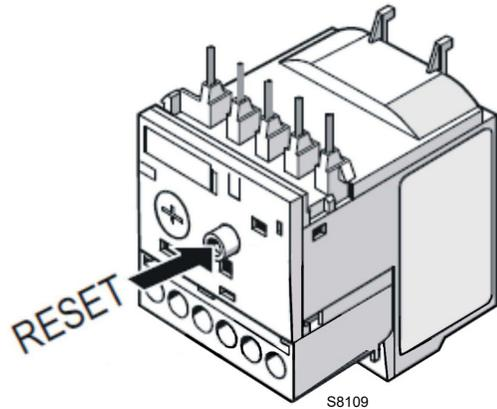

Fig. 32
- To reset, in the case of an intervention of the thermal relay, press the button "RESET" (Fig. 32).